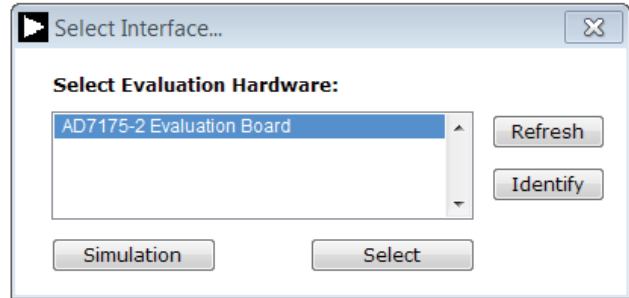
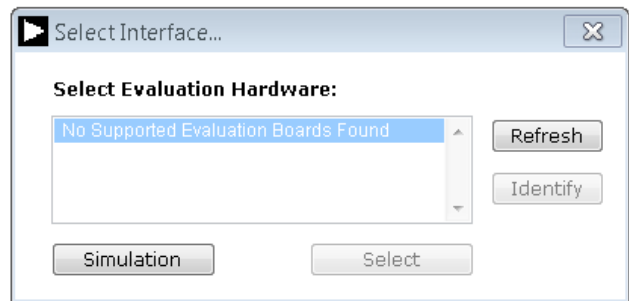

Figure 13. AD7175-2 Evaluation Board Selection
Figure 14. Evaluation Board Selection, No Board Connected
- The dialog box in Figure 13 appears, select **AD7175 Evaluation Board**. The main window of the software box displays as shown in Figure 16.
- If the **EVAL-AD7175-2SDZ** evaluation system is not connected to the USB port via the **SDP-B**, when the software is launched the **Select Interface** dialog box appears (see Figure 14). Connect the evaluation board to the USB port of the PC, wait a few seconds, click **Refresh** and the option shown in Figure 13 appears.
The Evaluation Mode indicator displays the current evaluation mode. To switch between modes, click the Select Product button and the dialog box shown in Figure 13 appears.